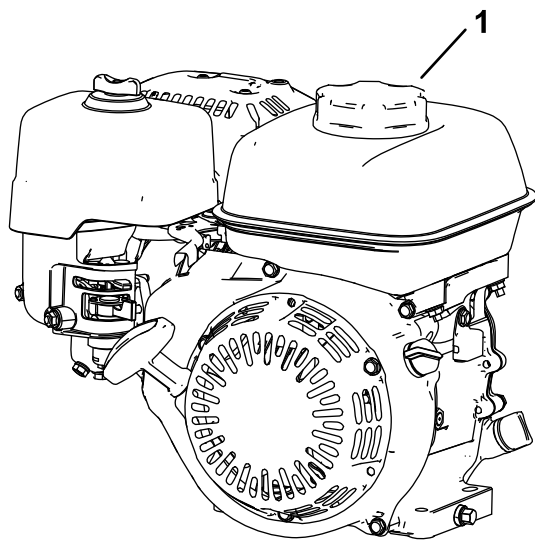

Figure 5
3. Clean around the fuel-tank cap and remove it (Figure 5).